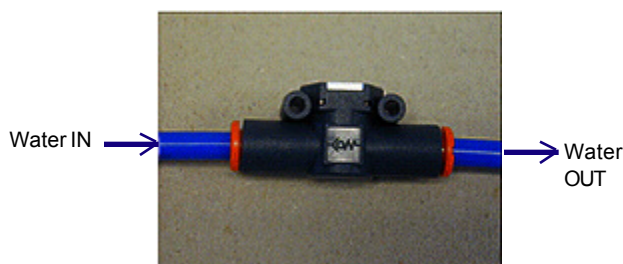

Figure 7.9
2. Connect the water supply to the LIQUID IN port on the CCU using the 6-mm outer diameter tubing (blue). If mains water is used as the supply, then the non-return valve (see Figure 7.9 below) should be placed in the line upstream of the CCU.